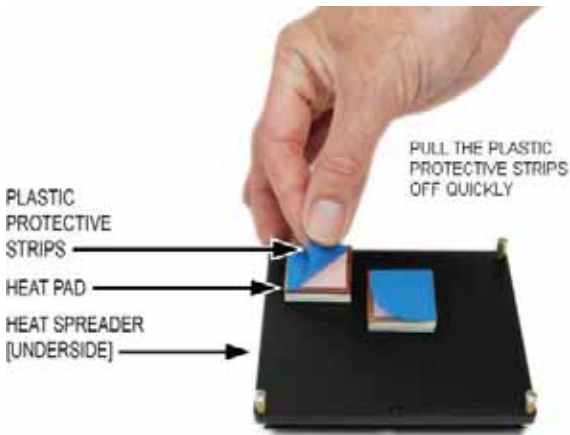

Figure 56: Removing Protective Strips from Heat Pads
5. Prepare the heat spreader for installation by removing the blue plastic protective strips from the adhesive heat pads (see Figure 56).